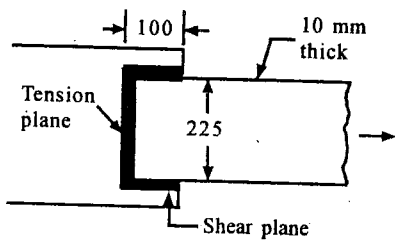

Fig. 3b
- (ii) Determine the block shear strength of the welded tension member shown in Fig. 3b. Use steel of grade Fe 410.